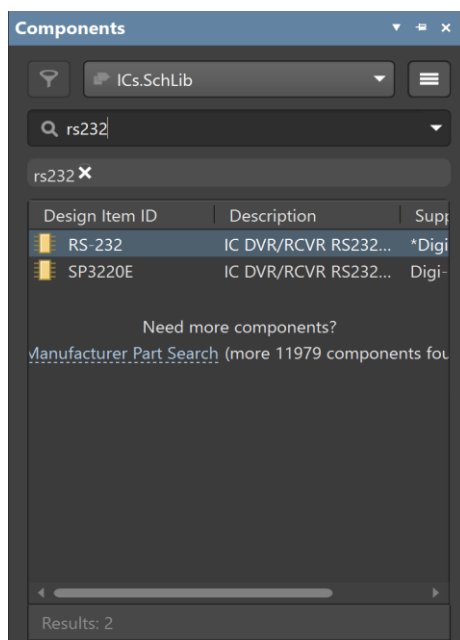

Figure 8: RS-232 Part under “Components”
14. Select the “ICs.SchLib” library from the drop-down menu and type “RS-232” into the search bar. You should see a screen similar to Figure 8.